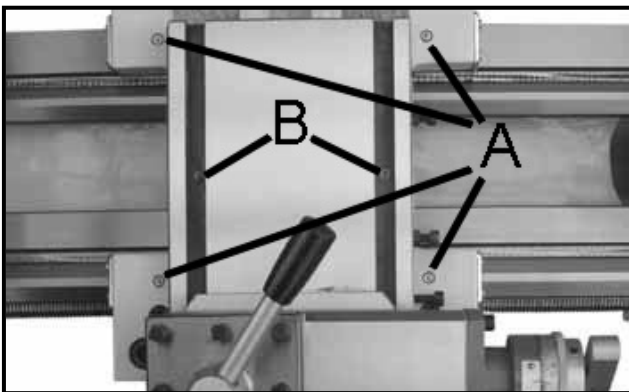

Figure-42 Oil ports locations
Lubricate the four oil ports (A) shown in figure-42 with 20W machine oil once daily.
Lubricate two oil ports (B) shown in figure-42 with 20W machine oil.